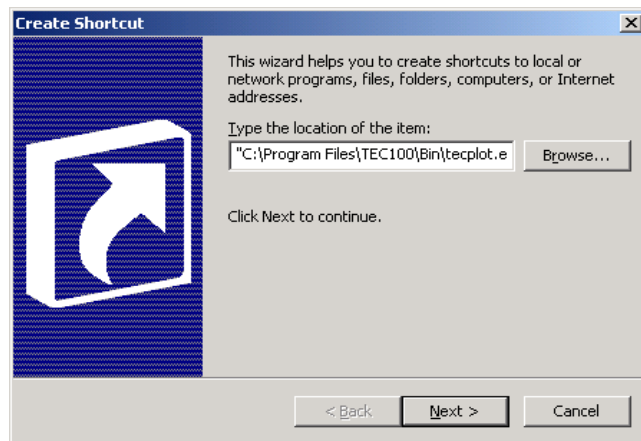

Figure A-1. The Create Shortcut dialog in Windows.
4. The "Create Shortcut" dialog will appear (Figure A-1).